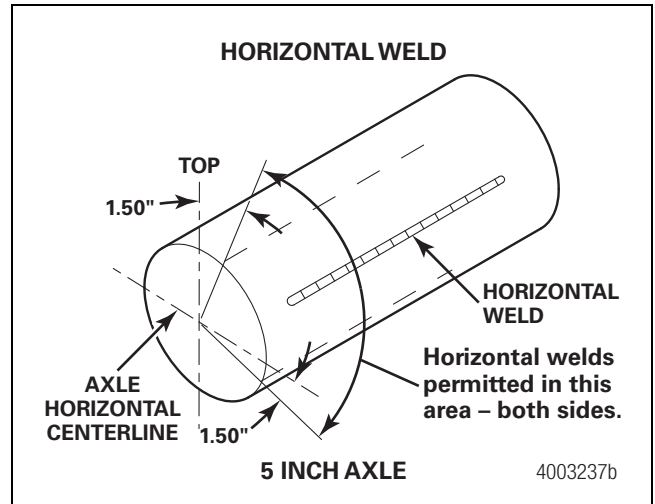

Figure 7.7
- Horizontal welding is not allowed on 5-inch (127 mm) diameter axles more than 1.50-inches (38.1 mm) below the axle horizontal centerline. Figure 7.7.